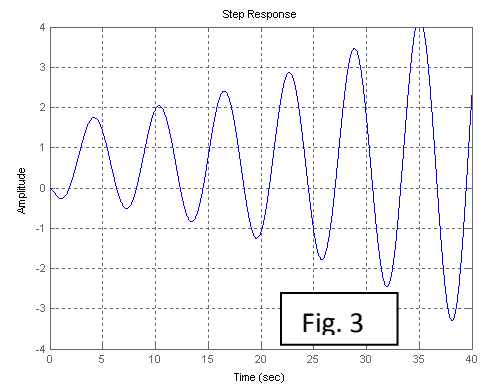

Fig. 3
5. A system is tested in feedback with a proportional controller with gain 10. Use Ziegler-Nichols rules to design a PI controller for the closed-loop step response shown in Fig. 3.